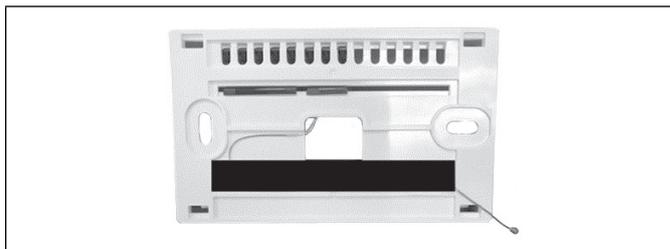

Figure 2. Rear of Back Plate
5. Position the thermistor sensing head and secure in place with electrical tape as illustrated in Figure 2.